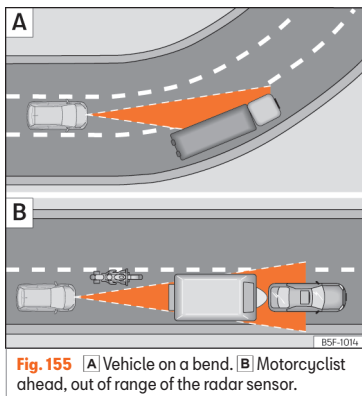

Fig. 155 **A** Vehicle on a bend. **B** Motorcyclist ahead, out of range of the radar sensor.
The ACC may not detect the vehicle in front on a curve, or may regulate the distance from vehicles in other lanes » **Fig. 155 [A]**.
- Vehicles that are not aligned while driving or that are outside the sensor's detection area, such as motorcycles » **Fig. 155 [B]**